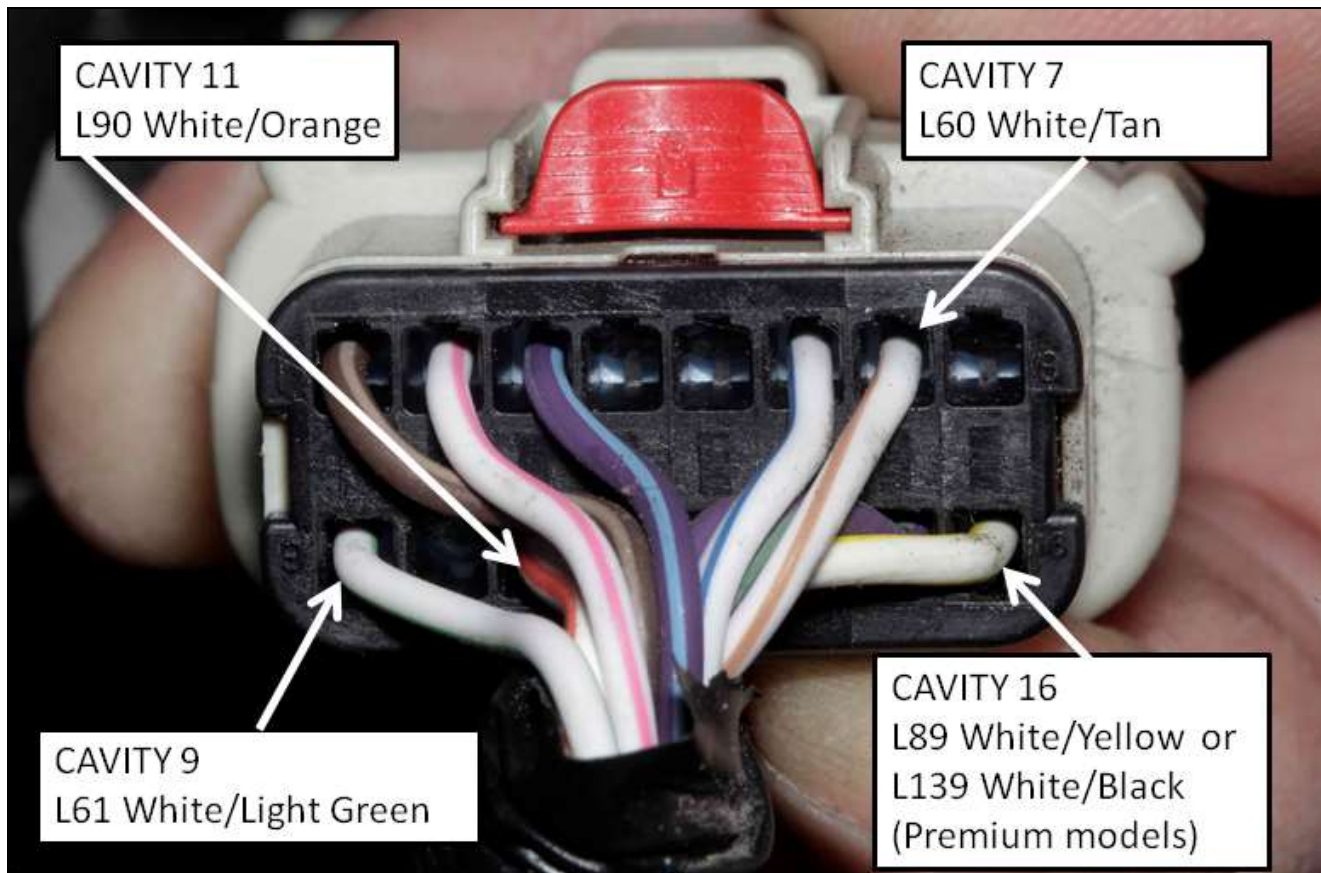

Figure 2
3. Identify cavity 7 of the C4 connector. If the wire in cavity 7 is White with Tan proceed to the next step (Figure 2).